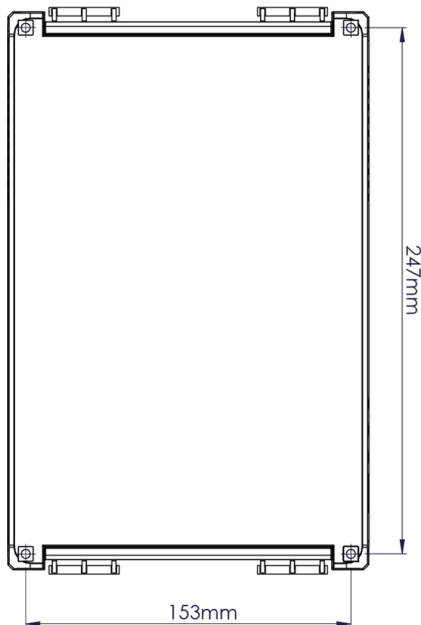

Fig. 3: Hole spacing for mounting
3. Attach the four dowels with the hole dimensions 153 mm x 247 mm to the mounting wall (cf Fig. 3)